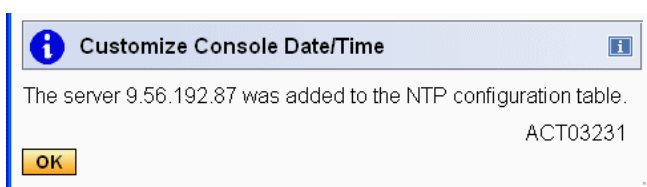

Figure 1-14 Message ACT03231 - Add NTP server information
3. When **OK** is clicked, an information window displays to indicate that the NTP server has been added (Figure 1-14 on page 11).